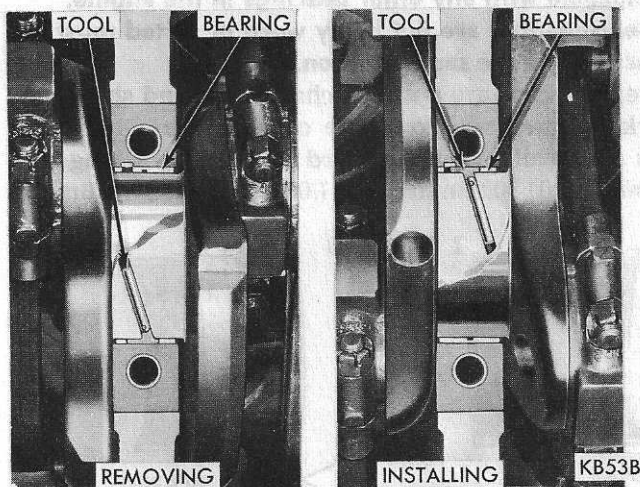

Fig. 45—Removing and Installing Upper Main Bearing with Tool C-3059
(1) Remove oil pan and identify bearing caps before removal.
(2) Remove bearing caps one at a time. Remove upper half of bearing by inserting Tool C-3059 (Fig. 45) into oil hole of crankshaft.
(3) Slowly rotate crankshaft clockwise, forcing out upper half of bearing.
(1) Start bearing in place, and insert Tool C-3059 into oil hole of crankshaft (Fig. 45).
(2) Slowly rotate crankshaft counter-clockwise sliding the bearing into position. Remove Tool.